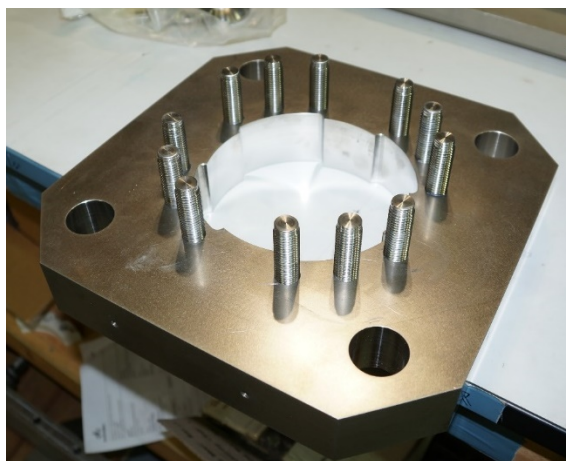

Figure 15: Bullets in RE axial end plate.
26. Add the 75 mm bullets to the LE axial end plates and the RE axial end plates (Figure 15). They should be flush with the side facing the coils.